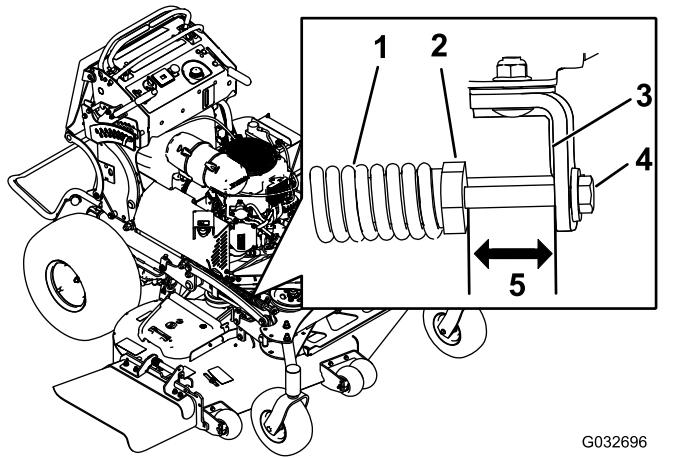

Figure 93
2. Check the distance between the spring nut and the rear side of the welded mount bracket (Figure 93).
3. Ensure that the length is between 47 to 50 mm (1.8 to 2 inches) (Figure 93).
4. If needed, adjust the distance by adjusting the bolt on the front of the mount bracket (Figure 93).